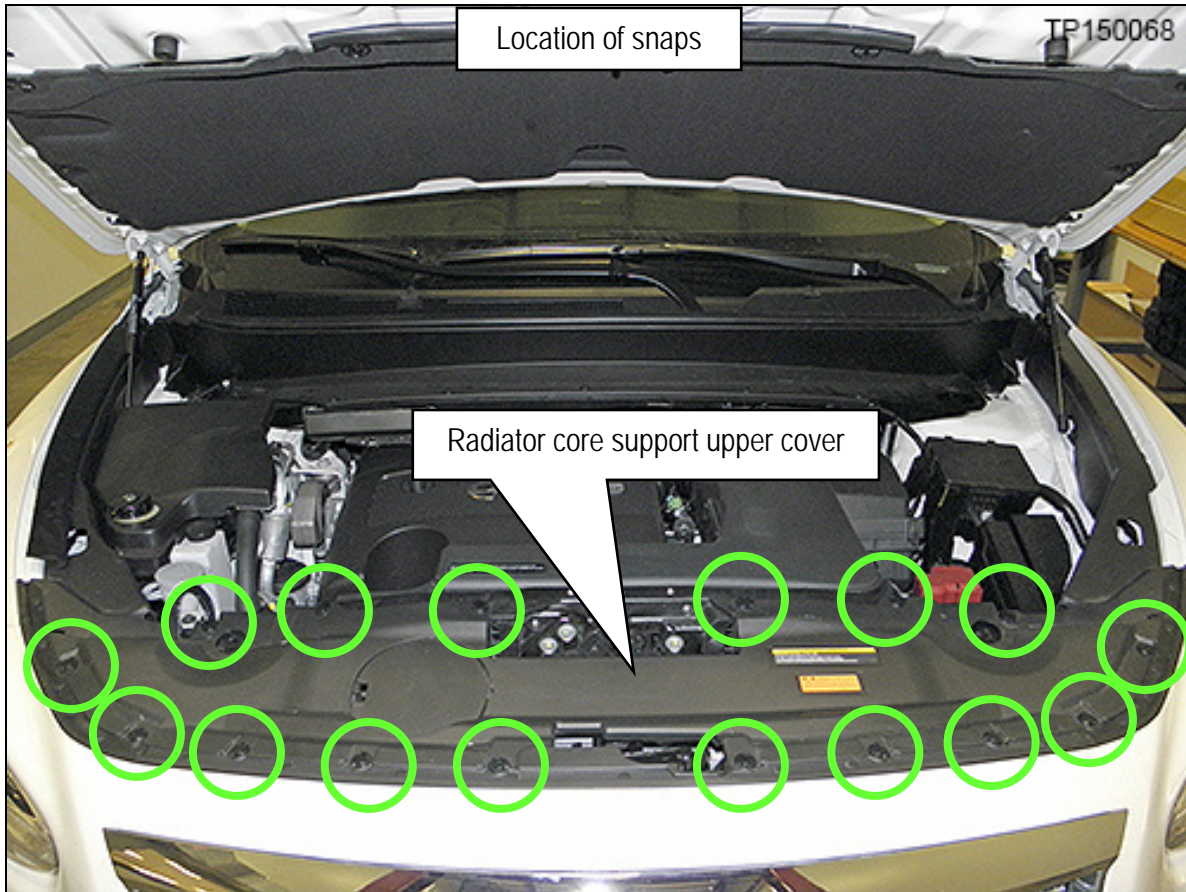

Figure 1
1. Open the hood and remove the 13 snaps and then the radiator core support upper cover (Figure 1).